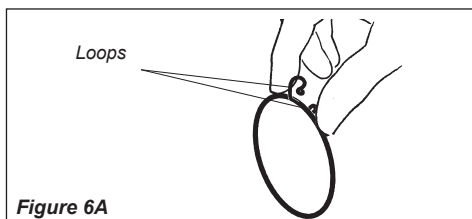

Figure 6A
4. Install throttle cable holder just forward of the 102 mm clamp, pinching loops together to fit over end of flexible tube. See Figures 6A and 6B.